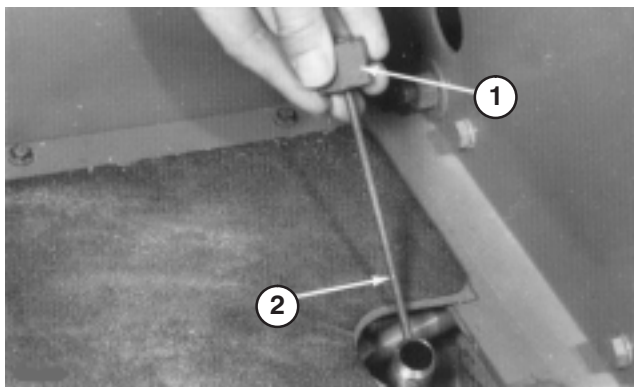

Figure 24
2. Unscrew dipstick cap (Fig. 24) from the filler neck and wipe it with a clean rag. Screw dipstick cap finger tight onto filler neck. Unscrew the dipstick and check level of oil. If level is not within 1/2 in. (13 mm) from the groove in the dipstick (Fig. 24), add enough oil to raise level to groove mark. **Do not overfill** by more than 1/2 in. (13 mm) above groove.